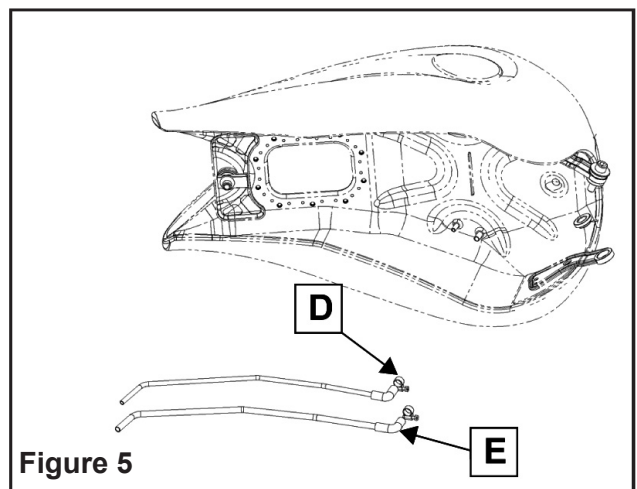

Figure 5
6. Loosen clamp(s) (D) (if equipped) and remove water drain and vent line from old tank. Set line (s) aside for installation on kit tank. Inspect rubber elbow fittings on line(s) (E) and replace if cracked or damaged. Figure 5.